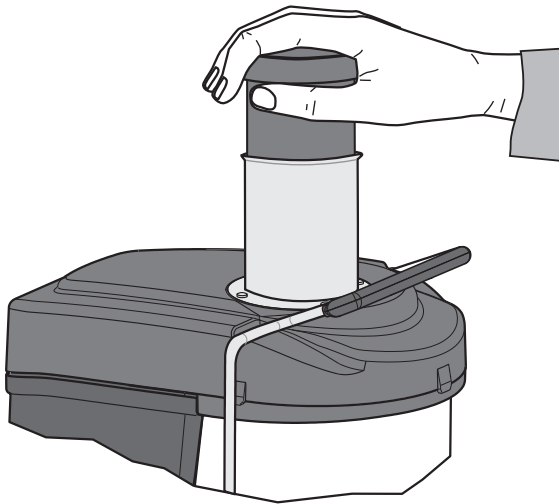

Fig. 7
- 6** Use the food pusher provided, to gradually push down the fruit and/or vegetables towards the spinning grating disc at the bottom of the feed chute (see Fig. 7). To obtain more juice always press the food pusher lightly. Do not insert fruit and/or vegetables when the motor is off.